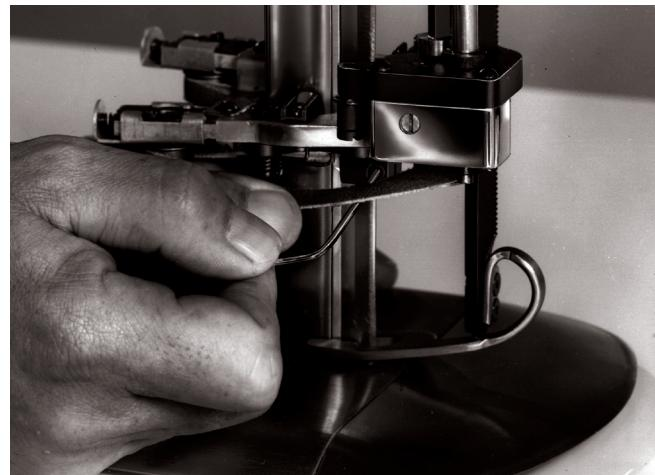

Figure 9. Adjusting Bevel Bloc Shoes
4. Pull the sharpener belt down to expose the set screw (Figure 9 on page 11) on the Bevel Bloc.